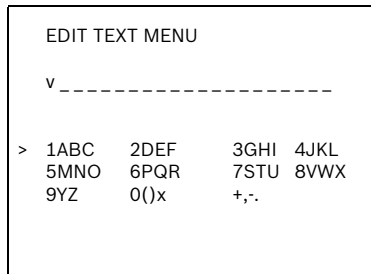

Fig. 11.6 Edit Text Menu
1. Upon accessing the **Edit Text** menu, select **String Edit**. The first field flashes a "v", indicating it is in **Edit** mode (see *Figure 11.6*).